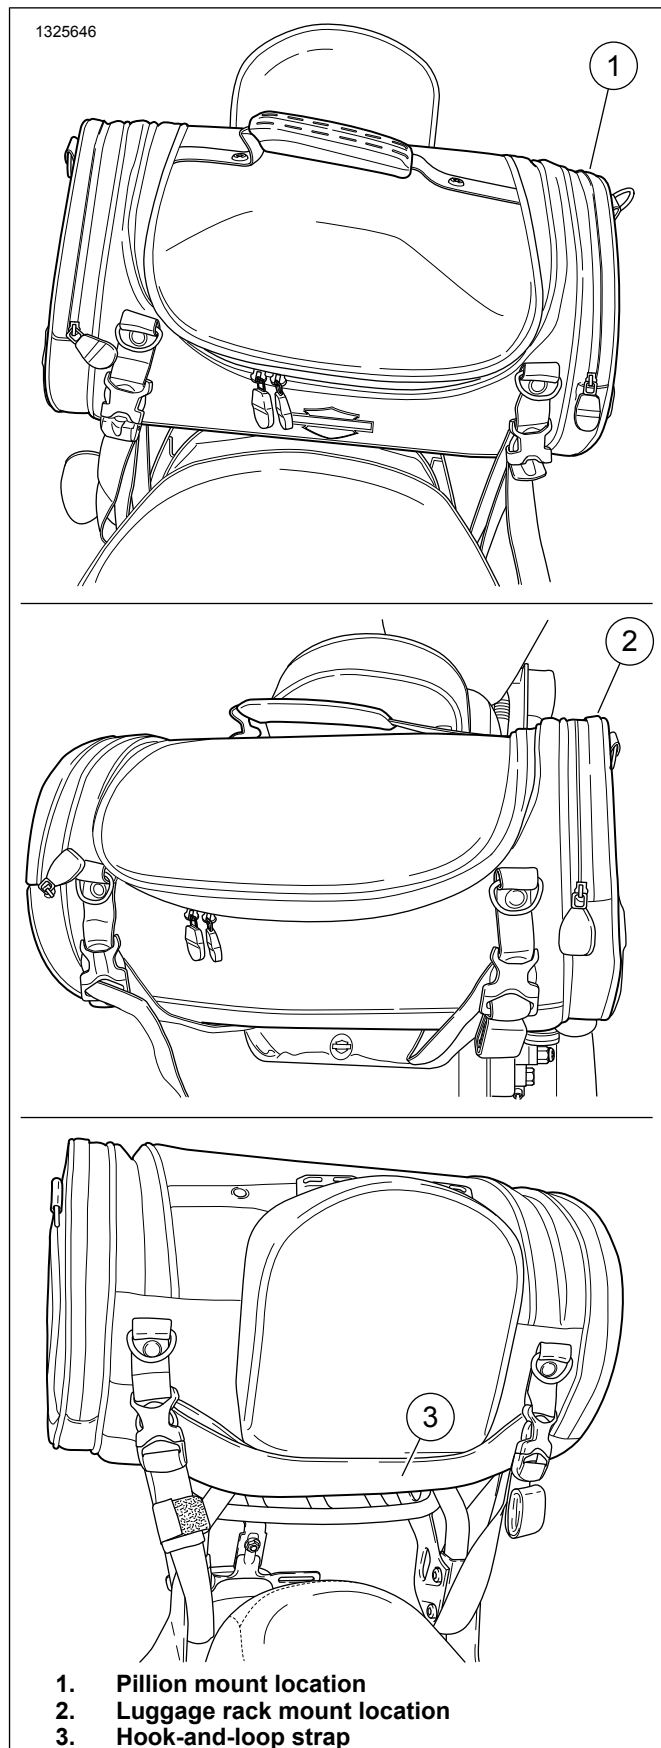

Figure 13. Day Bag
1. See Figure 13. Position bag on passenger pillion seat or luggage rack.